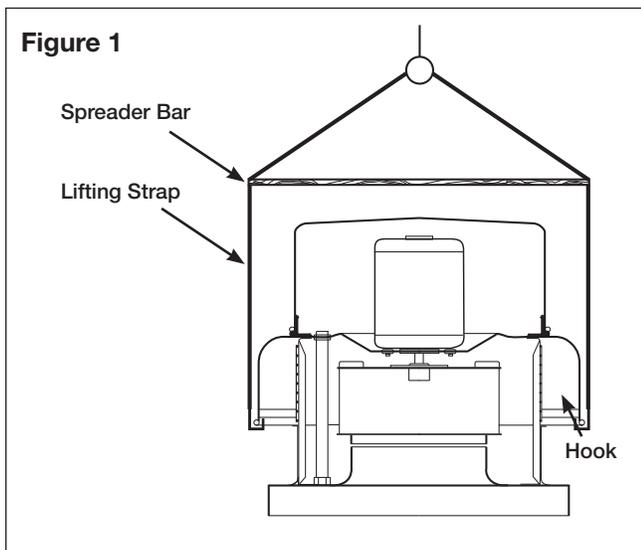

Figure 2
When lifting the unit on to the roof, use either the four lifting points on the drive frame or the two lifting points on the bearing plate if present (see Figure 2 for lifting points). Access to the drive frame is accomplished by removing the screws pointed out in Figure 3. The cover can then be removed and placed on a flat surface in an area protected from strong winds.
4. On GB Belt Drive fans, use the lifting lugs on the drive frame or bearing plate to lift and place the unit on top of roof curb. Refer to Figure 2, page 3.